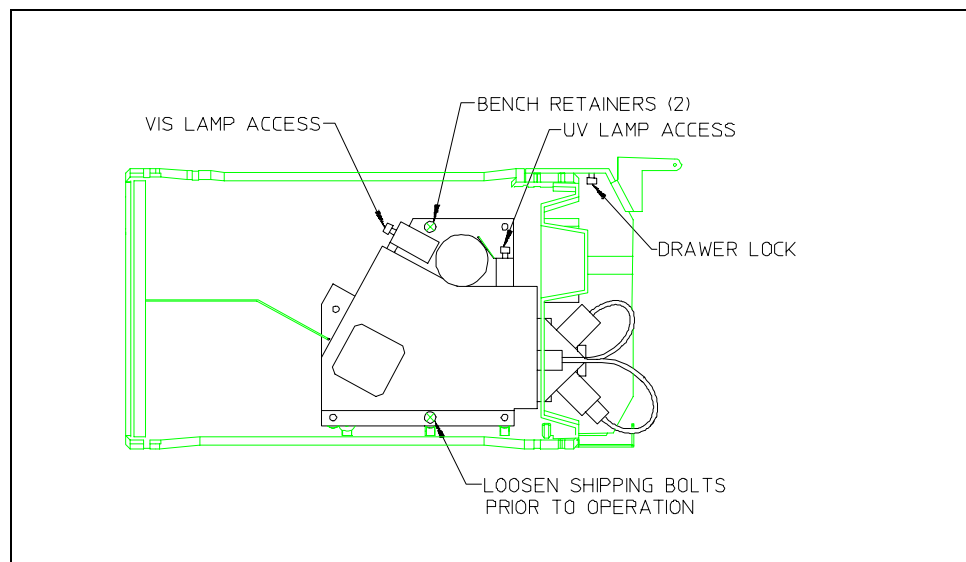

Figure B-2. Optical Bench Shipping Bolts
3. Open the door to the AD20 optical chassis. Loosen the drawer lock (see Figure B-2) and pull open the drawer to the first stop. **DO NOT PULL THE DRAWER OUT FURTHER THAN HALFWAY.**
2. Open the door to the optical chassis (the lower unit of the AD20 enclosure). Loosen the drawer lock (see Figure B-2) and pull open the drawer to the first stop.
3. Two bolts clamp the optical bench to the optical chassis drawer (see Figure B-2) to prevent shipping damage. Loosen the screw on each shipping bolt three turns. Note: If it is ever necessary to reship the detector, remember to first retighten these screws.